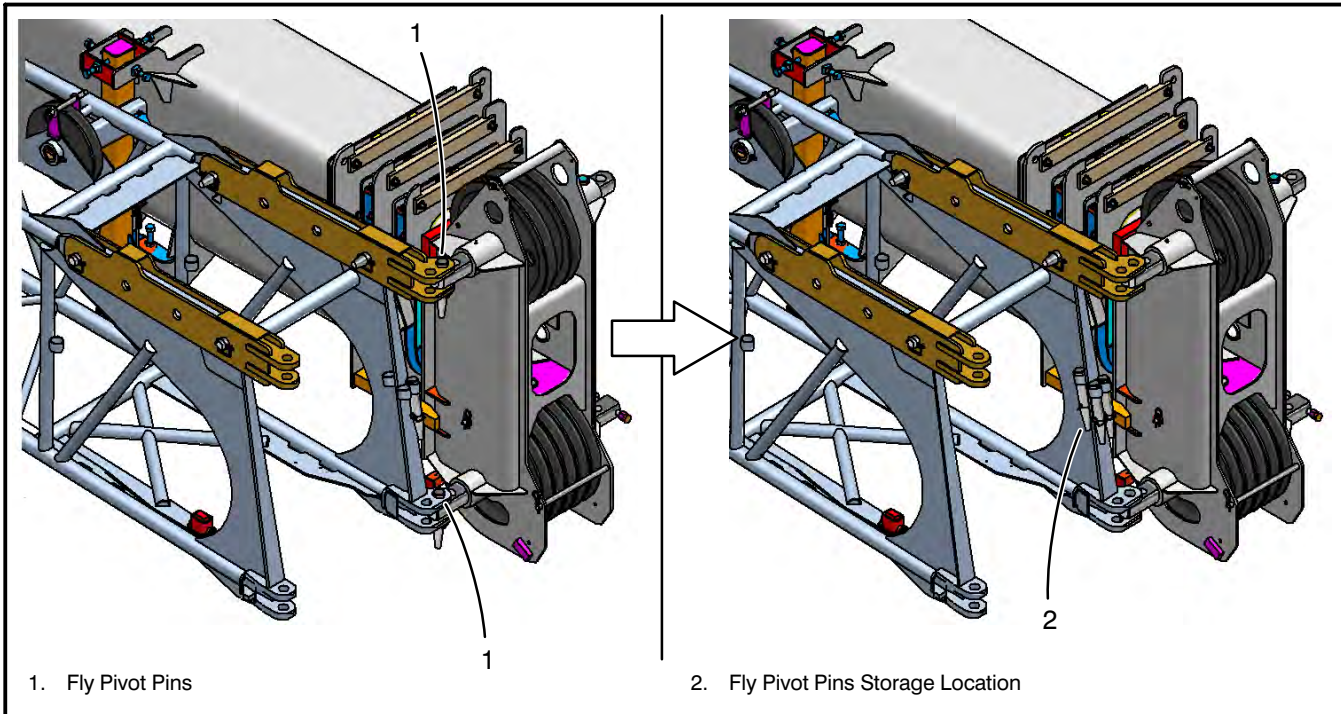

Figure 4–129
18. If the 28 ft (8.5m) fly section is stored on the boom, remove the connecting pins from their storage location. Refer to Figure 4–127.
21. Remove two fly connecting pivot pins from the right side of the boom. Refer to Figure 4–129. Store pins and keepers in their storage location on the rear right side of the fly section.